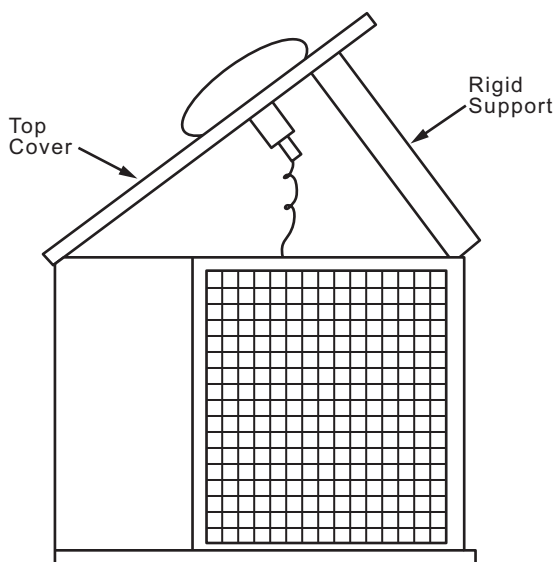

Fig. 27 — Pivot and Support Top Cover
2. Remove screws holding rear corner post and top cover in place. Pivot top cover up 305 to 457 mm (12 to 18 inches) and support with a rigid support. See Fig. 27.